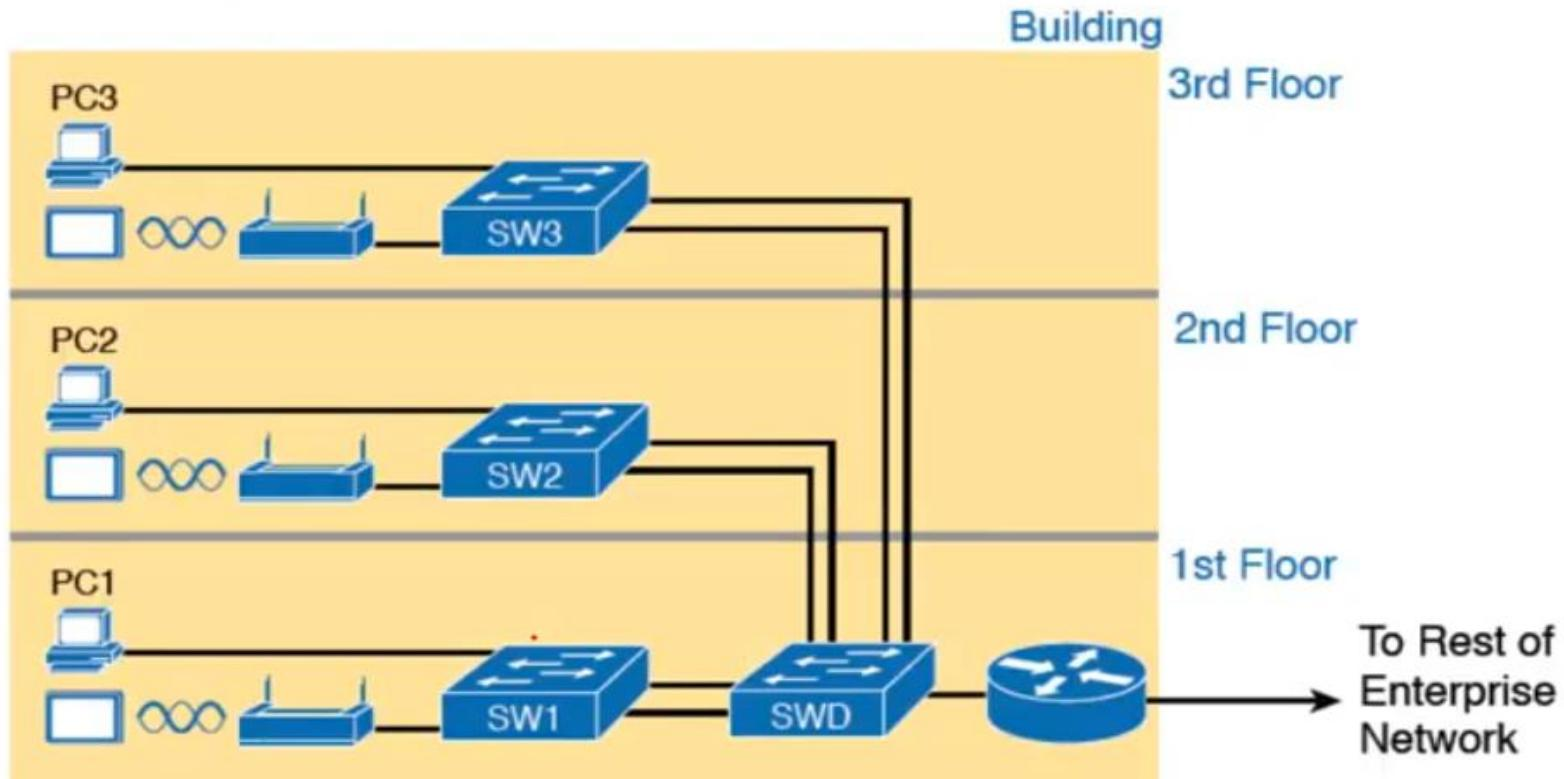

**Figure 2-2** Typical Small Wired and Wireless SOHO LAN
- Most wireless LANs rely on another networking device: a wireless LAN access point (AP).
- If the network uses an AP that is a separate physical device, the AP then needs a single Ethernet link to connect the AP to the Ethernet LAN, as shown in Figure 2-2.